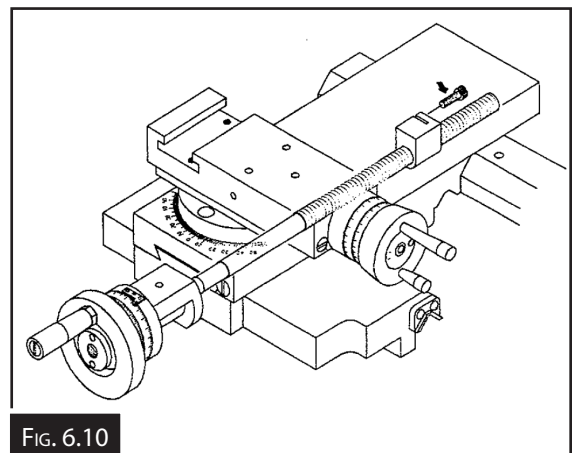

FIG. 6.10
3. With a long hex key in the cap head screw, make only small adjustment. Operating the cross slide several times by hand to be sure of smooth operation throughout the travel. (Fig. 6.10)